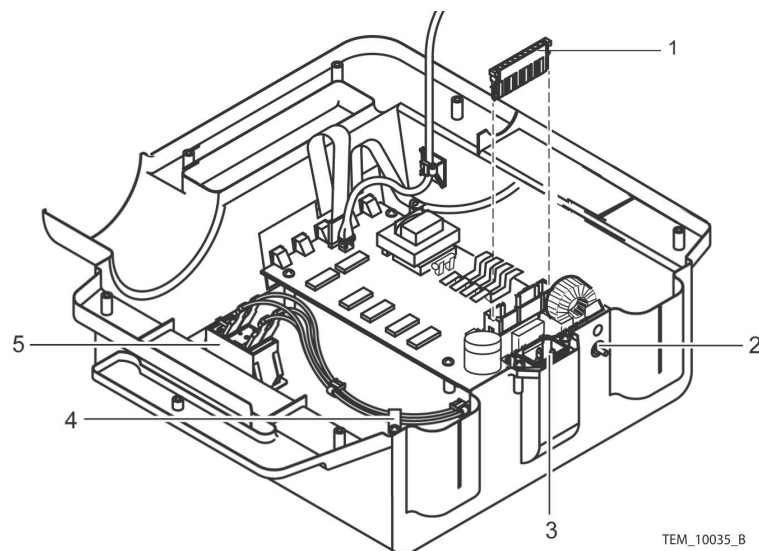
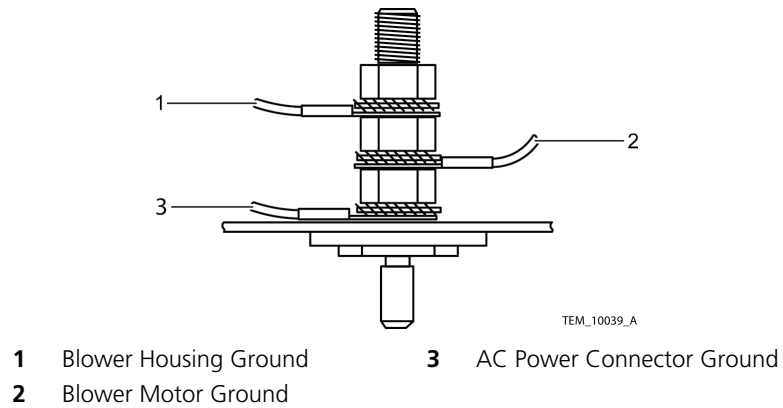

Figure 80. Front Cover Assembly
Figure 81. Equipotential Ground Stud Wiring
44. Connect the four wires to the power switch. Make sure to reconnect the wires in the same way they were connected before; refer to the list of wire colors and where they were connected to the switch, as recorded in Step 14. See Figure 80, item 5.
45. Install the cable clamp around the power switch wires (Figure 80, item 4).
46. Install the AC power connector into the front cover assembly. Tighten the screws to 4 to 6 in/lbs (10 to 15 cm/kg). See Figure 80, item 3.
47. Connect the 9-pin connector to the Control PCB (Figure 80, item 1).
48. Connect the ground wires to the equipotential ground stud (Figure 80, item 2) in the order shown in Figure 81. Tighten the nuts to 36 to 44 in/lbs (91 to 112 cm/kg).